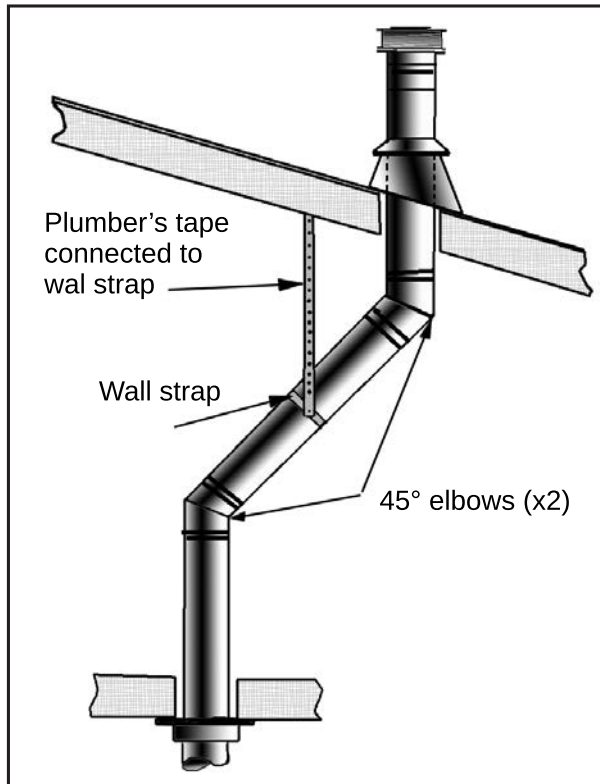

Figure 51: Use of Wall Straps.
- (1) If an offset is necessary in the attic to avoid obstructions, it is important to support the vent pipe every **3' (914 mm)**, to avoid excessive stress on the elbows, and possible separation. Wall straps are available for this purpose (see Figure 51).
- (2) When ever possible, use 45° degree elbows instead of 90° degree elbows. The 45° degree elbow offers less restriction to the flow of flue gases and intake air.